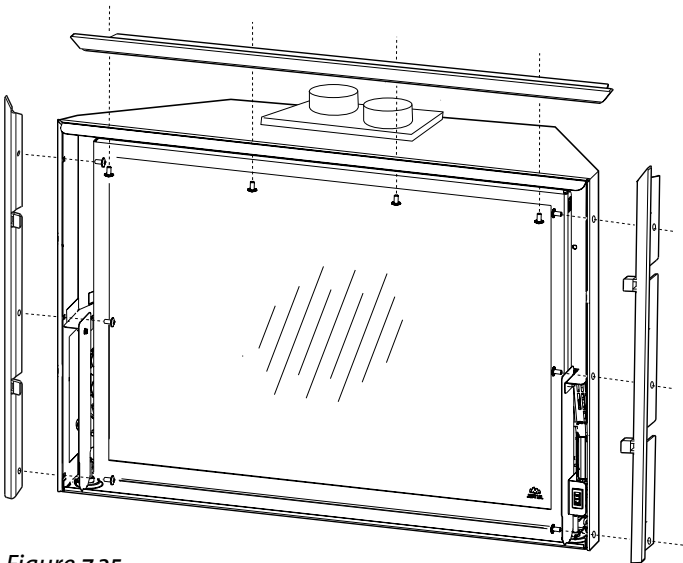

Figure 7.25.
1. Attach each bracket using the 10 M6 x 8 phillips head screws provided, as shown in fig. 7.25.